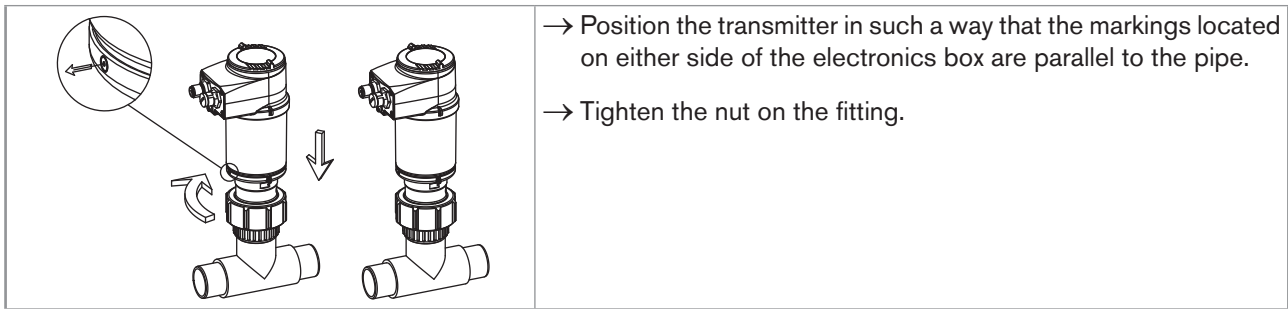

Fig. 12: Installation into a fitting
- Mount the transmitter into the fitting, as shown in Fig. 12: